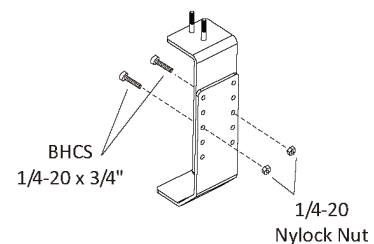

Figure 4-28
5. Attach the foot and top leg assembly together and fasten using supplied hardware (8 ft-lb). *See Figure 4-28.*